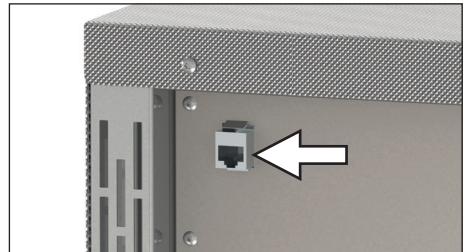
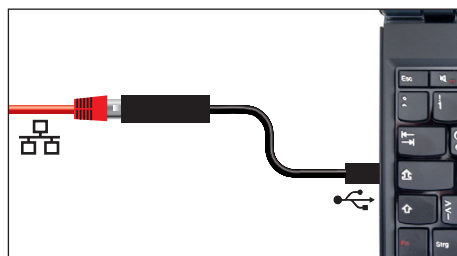

Fig. 4 Ethernet interface
Fig. 7 USB to Ethernet converter
The Ethernet interface is intended for appliances which meet the requirements of IEC 60950-1. The appliance can be connected to a network to read out protocol logs with AtmoCONTROL, the optional appliance software, via Ethernet interface. The Ethernet interface is located on the rear of the appliance (Fig. 4).
- ▶ USB to Ethernet converter (Fig. 7). Makes it possible to connect the appliance's network interface (see page Fig. 4) to the USB port of a computer / laptop.